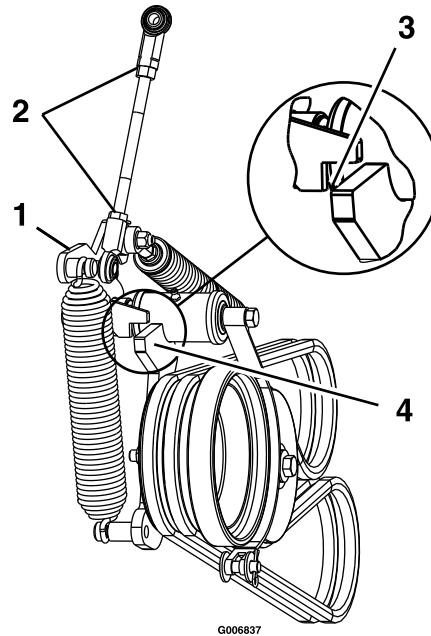

**Figure 48**
6. Loosen belt guides A and B (Figure 48).
8. Route the new belts onto the pulleys as shown in Figure 48.